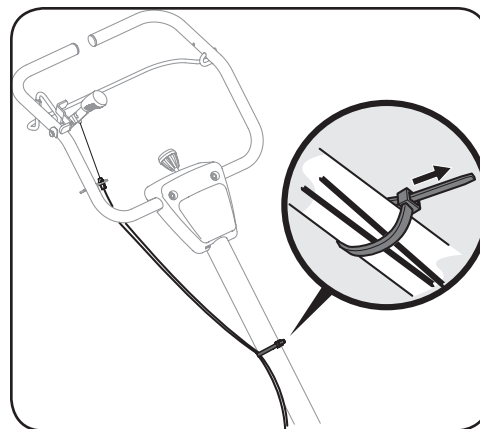

Figure 3-3
7. Using a cable tie secure the two cables onto the handle about mid-way down the shaft. See Figure 3-3.